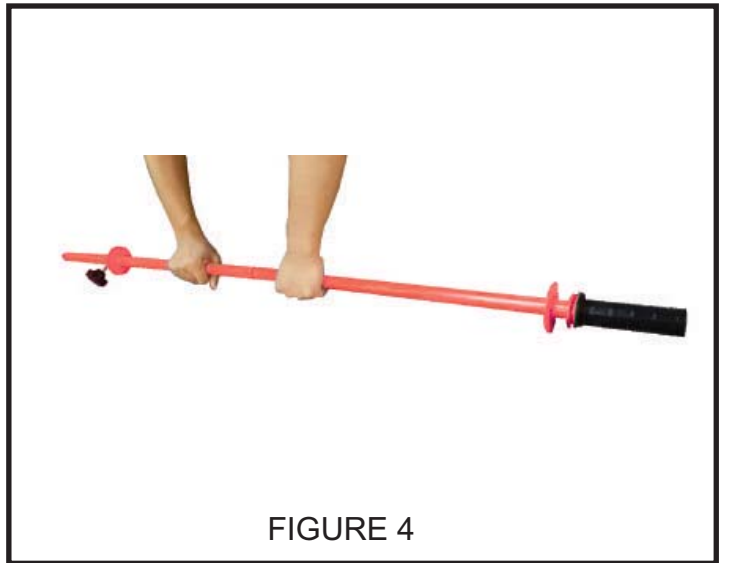

FIGURE 4
- 5) Assemble the film roll bar (5) with the film roll bar with handle (6) and place in position between the brace assemblies as shown in figure 4 and figure 5.